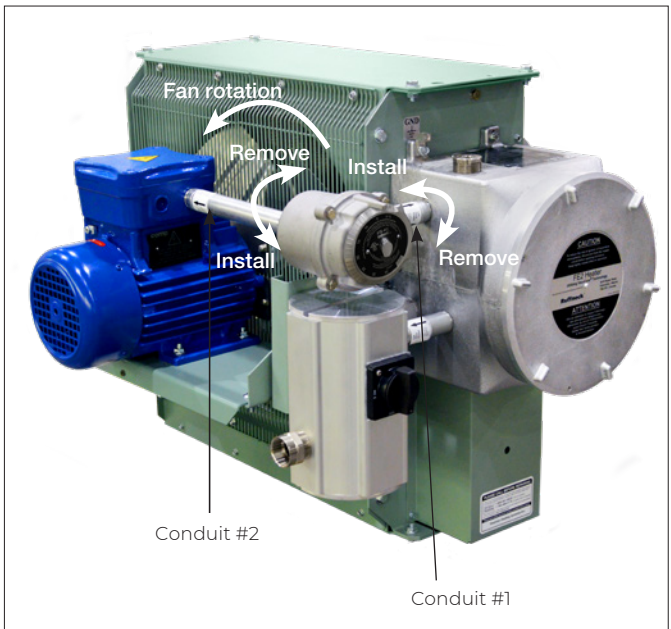

Figure 14
- 1.6 Ensure air exits through louvers and fan rotates counterclockwise when viewed from rear of heater (see Figure 14, page 19).
- 4.2 Remove conduit #1 located between motor junction box and control enclosure by turning it in the direction illustrated (see Figure 14, page 19).
- 4.8 To ensure a minimum 5 thread engagement, threaded ends of conduits must protrude a minimum of 1/16" (1.6 mm) into enclosures. The groove on conduit #2 must not be more than 7/8" (22 mm) from motor coupling (see Figure 14, page 19).
- 4.10 Air must exit through louvers and fan must rotate counterclockwise when viewed from rear of heater (see Figure 14, page 19).